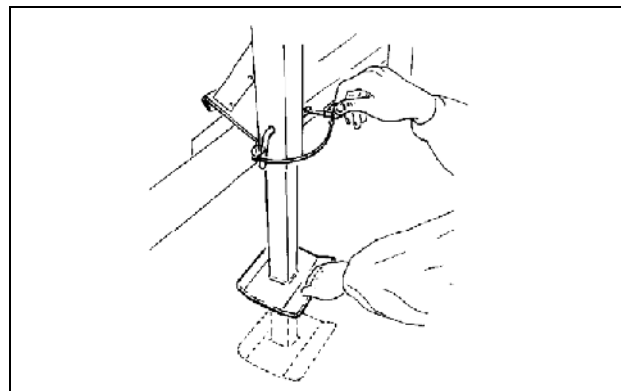

Fig. 44
**After coupling the front seed hopper to the tractor push the support stand (Fig. 44) upwards and before uncoupling the front seed hopper off the tractor in downwards.**